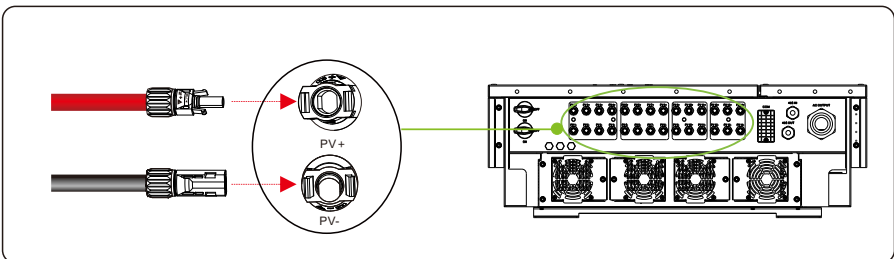

Figure 5.14 Connecting to the inverter
**Step 6** Insert the positive and negative connectors into their corresponding terminals of the Inverter until a "click" sound is heard, as shown in Figure 5.14.